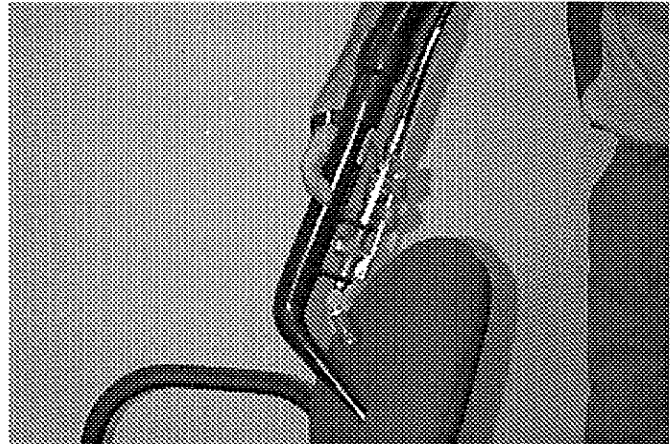

FIG. 9
5. Operate accessory tool as normal. (Figure 9)